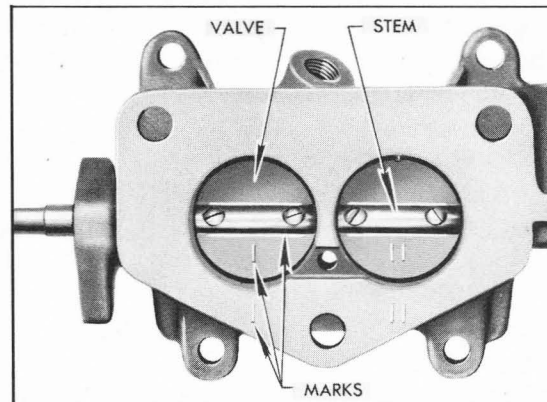

Figure 3-86—Marks on Throttle Valves
19. Before throttle valves are removed, they should be marked so that each valve may be re-installed in the barrel from which it was removed and may be accurately positioned in the barrel of throttle body. Using a sharp scriber, lightly scratch one line on one valve and its barrel and two lines on the other valve and barrel; also scribe lines on each valve along both edges of the valve stem. See figure 3-86. After